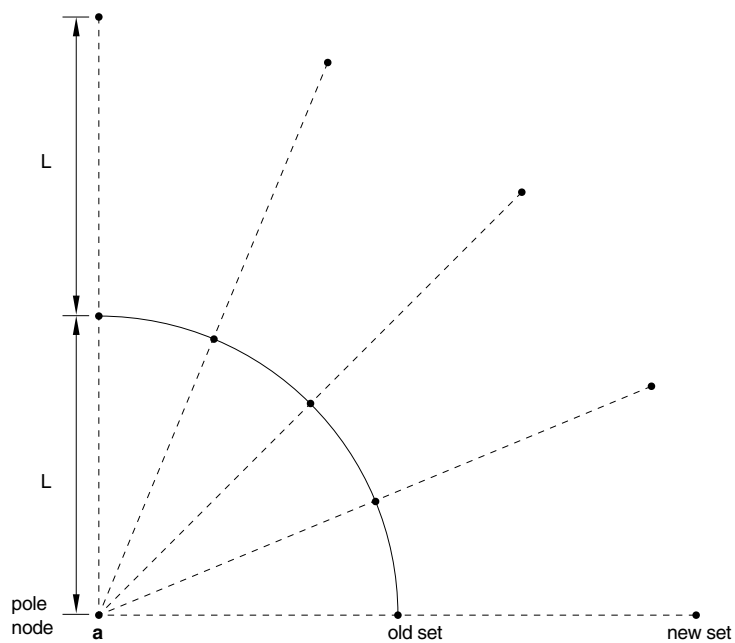

Figure 5: *NCOPY, POLE option.
2. *X*-coordinate of the pole node (point *a* in Figure 5 only required if the pole node number was not entered).